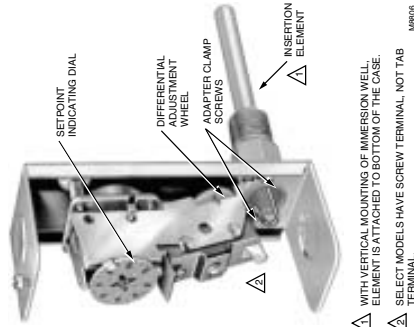

Fig. 1. Internal view.
These remote bulb (see Fig. 7), immersion type (see Fig. 1) controllers operate in response to temperature changes in hydronic heating systems and other heated liquids.
**Differential (on adjustable differential models):** Remove cover and move the differential adjustment wheel (Fig. 1 or 7) to a point on the scale corresponding to the desired differential. Replace cover.